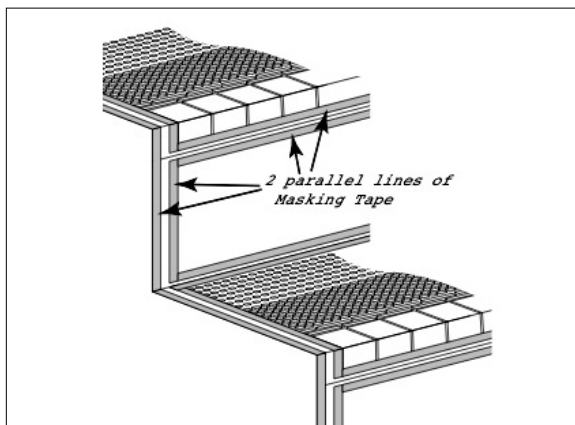

Fig 14
- ◆ The 3mm wide flat area in the embossing may also be sealed using Henkel Teroson MS 939NA or equivalent edge sealer. Place two parallel lines of masking tape on each side of seam area. Smooth the edge sealer with a spatula or similar tool. See Fig 14, 15 & 16.
- ◆ Place two parallel lines of masking tape around the entire edge of the Takiron Stair Treads, Riser and Landing Sheet. The inside tape line should be on the tread paralleling the tread edge. The second tape line should be on the substrate paralleling the tread edge. The gap between the two masking tape lines should be 5mm wide (approximately 3/16 inch). Apply a bead of Henkel Teroson MS 939NA or equivalent edge sealer and smooth with a spatula or similar tool so that edge sealer is 5mm wide (approximately 3/16 inch). See Fig 14, 15 & 16 on page 6.